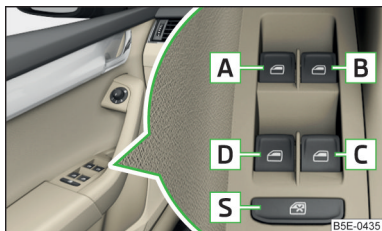

Fig. 42
- Deactivating the electrically operated power windows in the rear doors is recommended (safety push button) S when children are being transported in the rear seats » Fig. 42 on page 64.
- After switching the ignition off, it is still possible to open or close the windows for approx. 10 minutes. After the driver's or front passenger's door has been opened, the windows can only be operated by using button **A** » Fig. 42 on page 64.
Power window buttons » Fig. 42
The buttons for power windows in the rear doors can be deactivated by pressing the safety switch **S** » Fig. 42. The buttons for the electrical power windows in the rear doors are activated again by pressing the safety pushbutton **S** again.
- Hold button **A** » Fig. 42 on page 64 in the opening position.
- Hold button **A** » Fig. 42 on page 64 in the closing position.